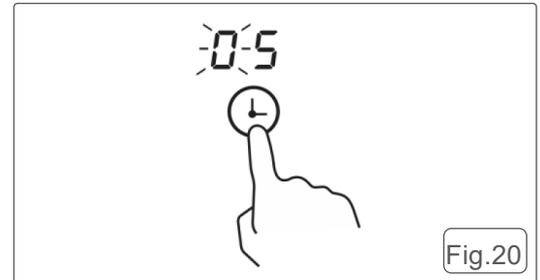

Fig.20
4. Touch timer control again, the "0" will flash. Fig.20